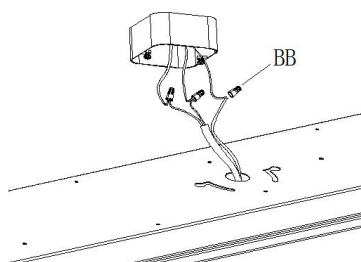

Figure 3
2. Connect the house ground wire to the yellow/green ground wire on the mounting plate (Part A) using the wire nut (BB).
3. Connect the house white wire to the mounting plate (Part A) white wire using the wire nut (BB).
4. Connect the house black wire to the mounting plate (Part A) black wire using the wire nut (BB).
NOTE:For proper connection,place the wire nuts (BB) over wires and twist clockwise until tight (Figure 3).